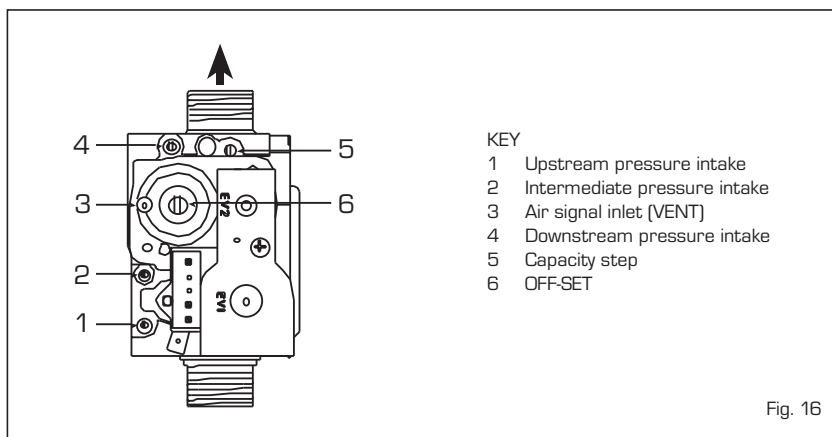

Fig. 16
The boiler is supplied as standard with a gas valve, model SIT 848 SIGMA (Fig. 16).
- 3) Identify the CO₂ values at max. power by adjusting the shutter (5 in Fig. 16):
- 5) Identify the CO₂ values at min. power by adjusting the OFF-SET regulation screw (6 in Fig. 16):